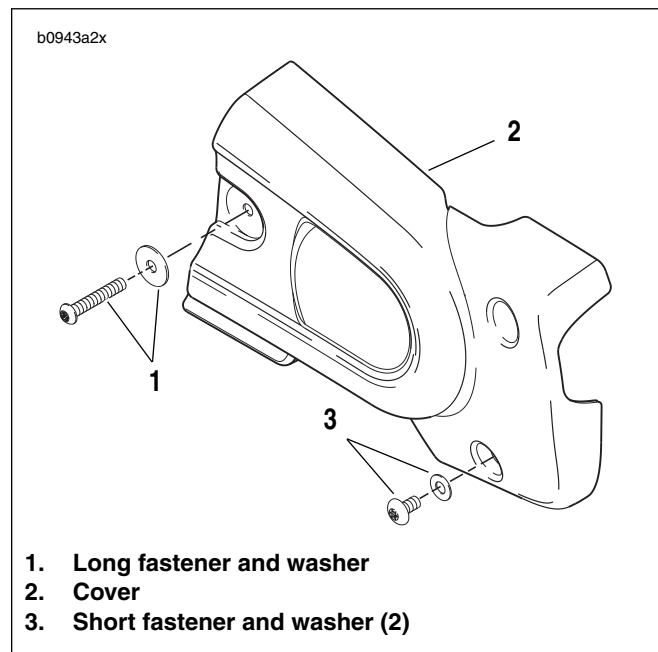

Figure 2-107. Sprocket Cover
2. See Figure 2-107. Remove sprocket cover fasteners and washers (1).
1. See Figure 2-107. Position sprocket cover (2) over front sprocket.